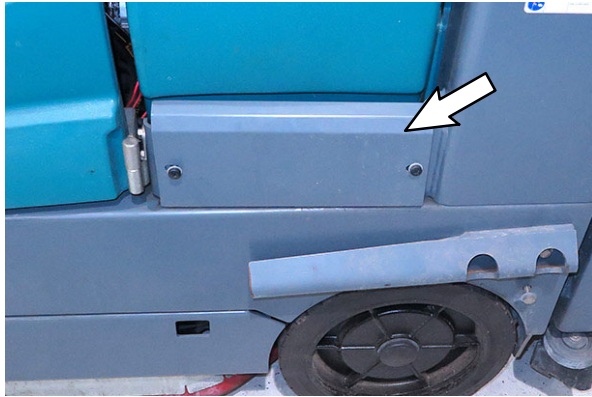

FIG. 1
5. **M20/M30 Only:** Remove the lower cover from the machine. Set the lower cover and hardware aside. (Fig. 1)